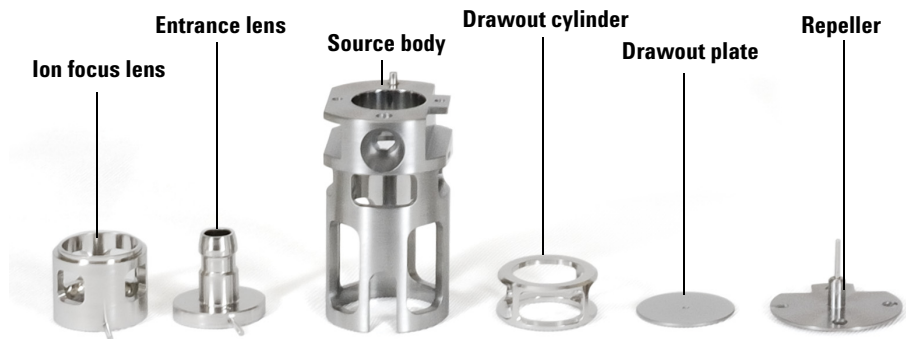

Figure 29 CI Ion Source Parts to be Cleaned
- 2 Collect the following parts to be cleaned: (Figure 29)